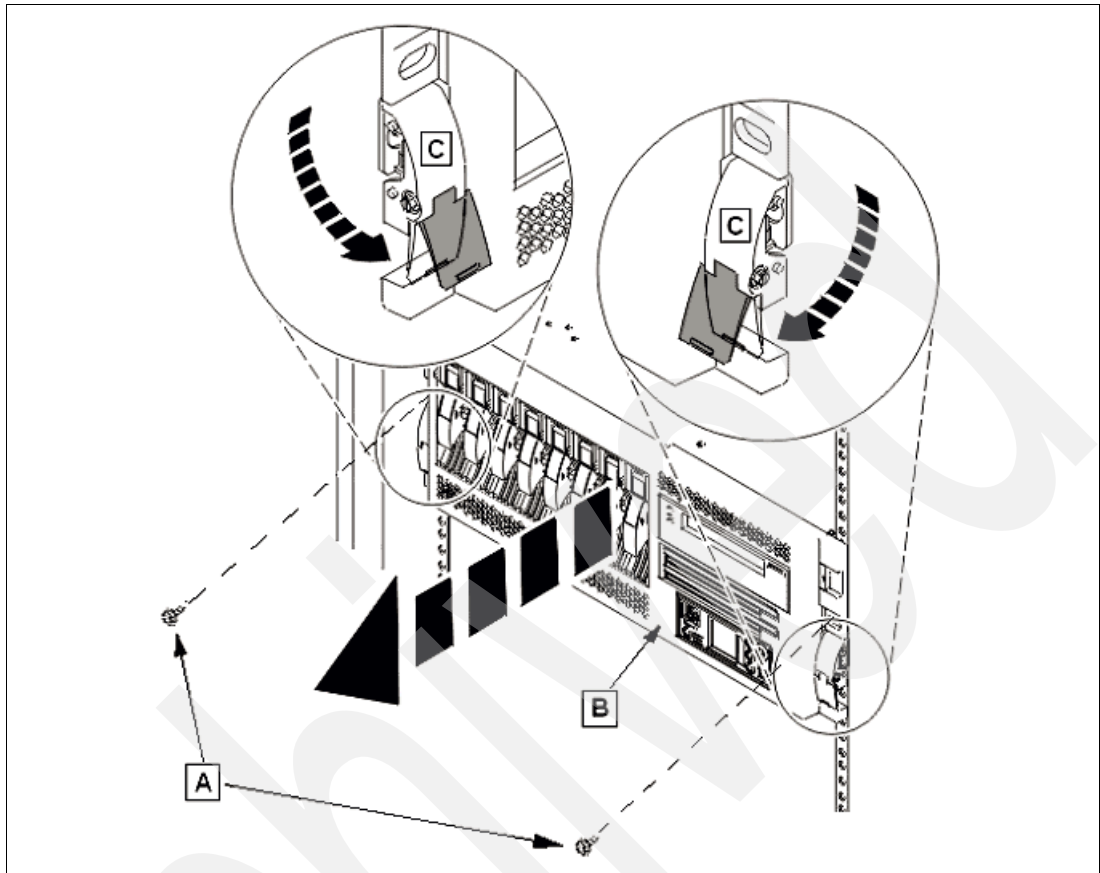

Figure 2-38 Pull the 550 to the service position
2. Remove the two thumbscrews (A) that secure the system or expansion unit (B) to the rack, as shown in Figure 2-38.
3. Release the rack latches (C) on both the left and right sides, as shown in the Figure 2-38.